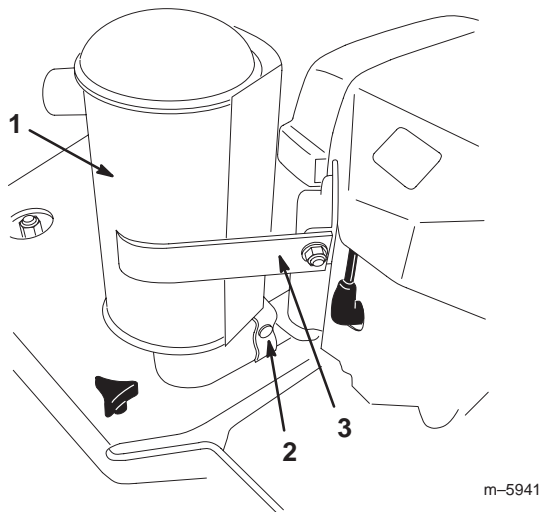

Figure 14
1. Loosen the clamp (Fig. 14).
2. Rotate the muffler forward into the position shown in Figure 14.
3. Secure the muffler bracket (Fig. 14) to the engine bracket with the hardware provided.